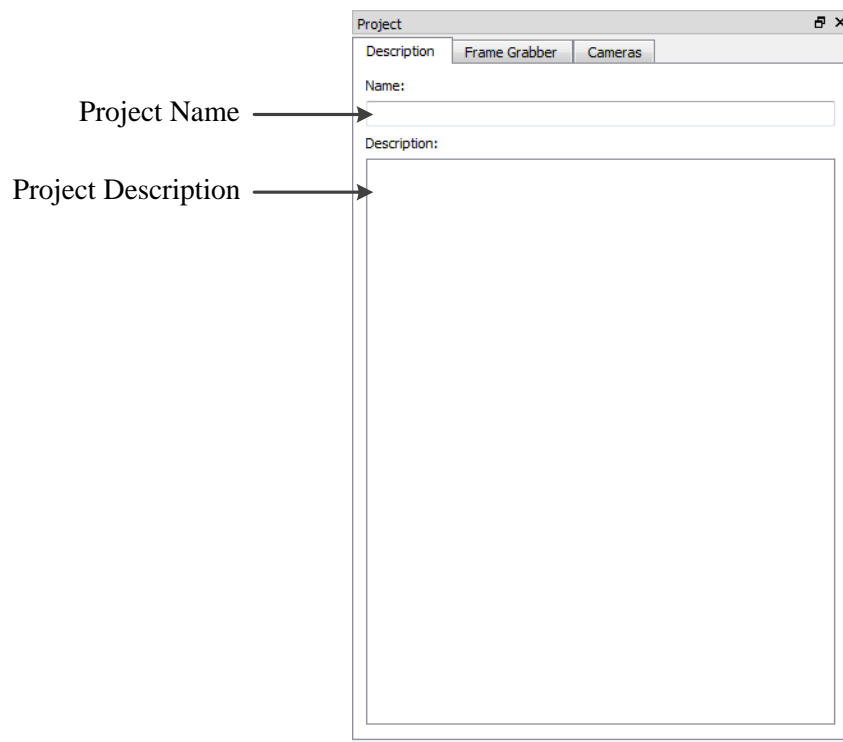

Figure 5 : Project description tab
2. A Description tab, used to specify the project name and description as shown in Figure 5.